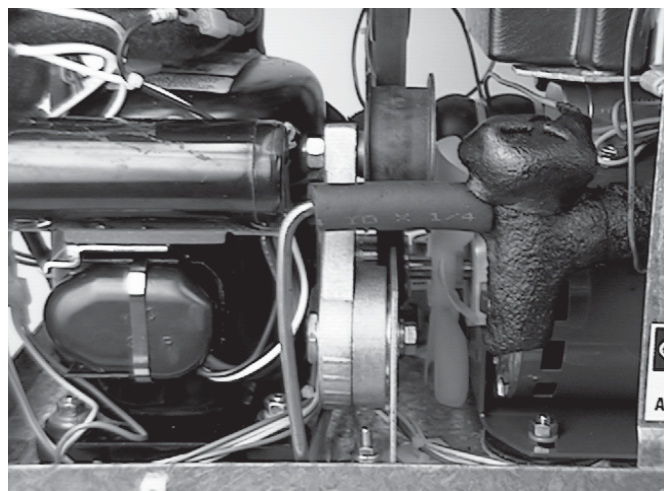

Figure 44. Belt Tensioner
5. Pull back belt tensioner and remove belt. Figure 44.